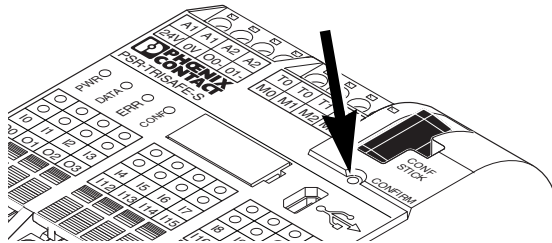

Figure 10-6 Confirming the configuration with the "Confirm" button
5. Confirm the new configuration by pressing the "Confirm" button using a pen (see figure 10-6).